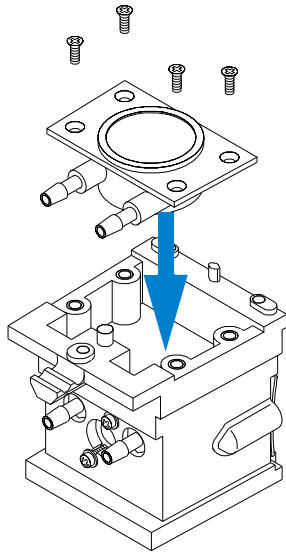

Figure 15 Installing the Cell Stirring Module
- 3 Insert the cell stirring module into the cavity in the base of the thermostattable cell holder, see Figure 15.